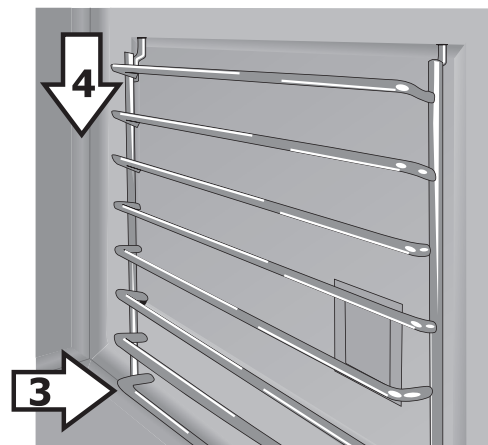

Figure 4:
3. Once the upper prongs are in place, hold the oven rack support flush with the oven side and insert the bottom prongs into the bottom holes (Figure 4).
4. Slide the bottom prongs down into the lower holes. Some force may be required to set the rack into place (Figure 4).